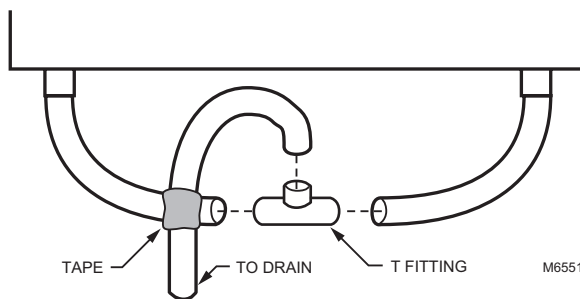

Fig. 8. Installing P-trap.
3. Connect the drain line to the center leg and tape it in place to prevent any kinks. See Fig. 8.